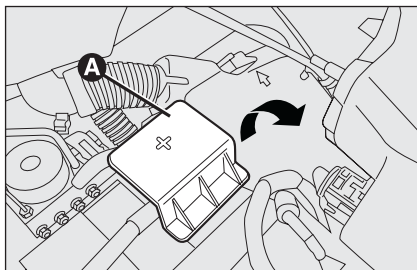

fig. 47
- ☐ remove the lid **A**-fig. 47 protecting the positive pole of the battery by pulling it up;